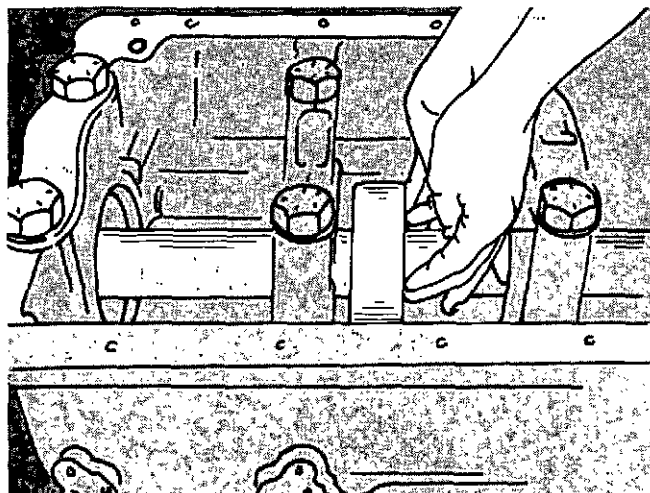

Fig. 1-38. Push The Checking Ring Through The Bore.
- Apply lubrication to the outside diameter of the checking ring. Use the pressure of your fingers to push the checking ring through the bores, Fig. 1-38. As you push the ring through the bores, rotate the bar. If the checking ring will not pass through the bores, check the bores for rough edges.